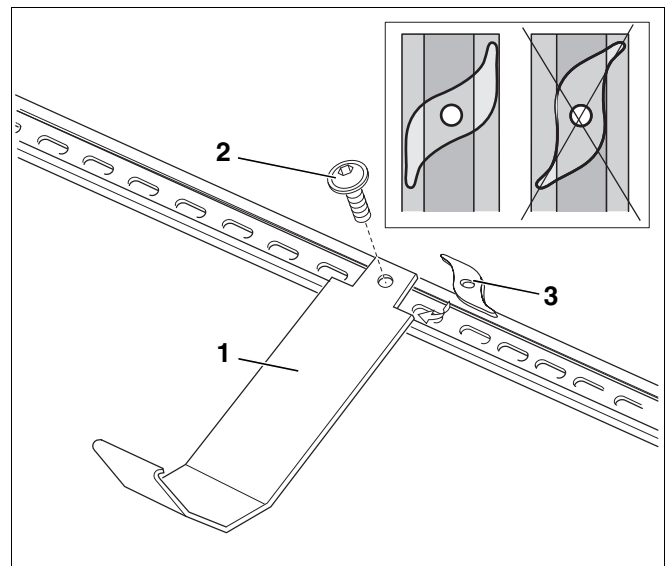

Fig. 16 Attaching antislip device
To be able to install the collectors safely, the antislip device (Fig. 16, **Item 1**) must be attached and secured to the bottom profile rails.
- Attach the preassembled antislip device centrally between the collector holders Fig. 16 with the threaded plates (self-locking, tight thread; Fig. 16, **Item 3**) and pan-head screws (Fig. 16, **Item 2**).